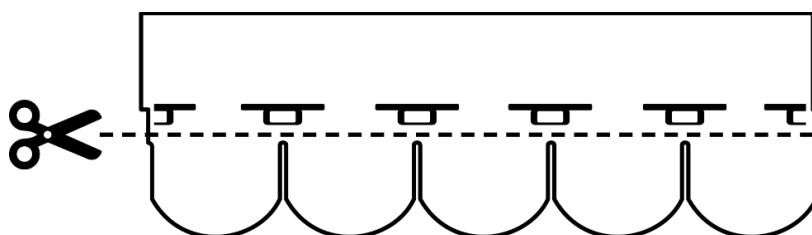

Fig. 6 – Starting row preparation
- Arrange the shingles for the starting row cutting the tabs, as shown in Fig. 6;